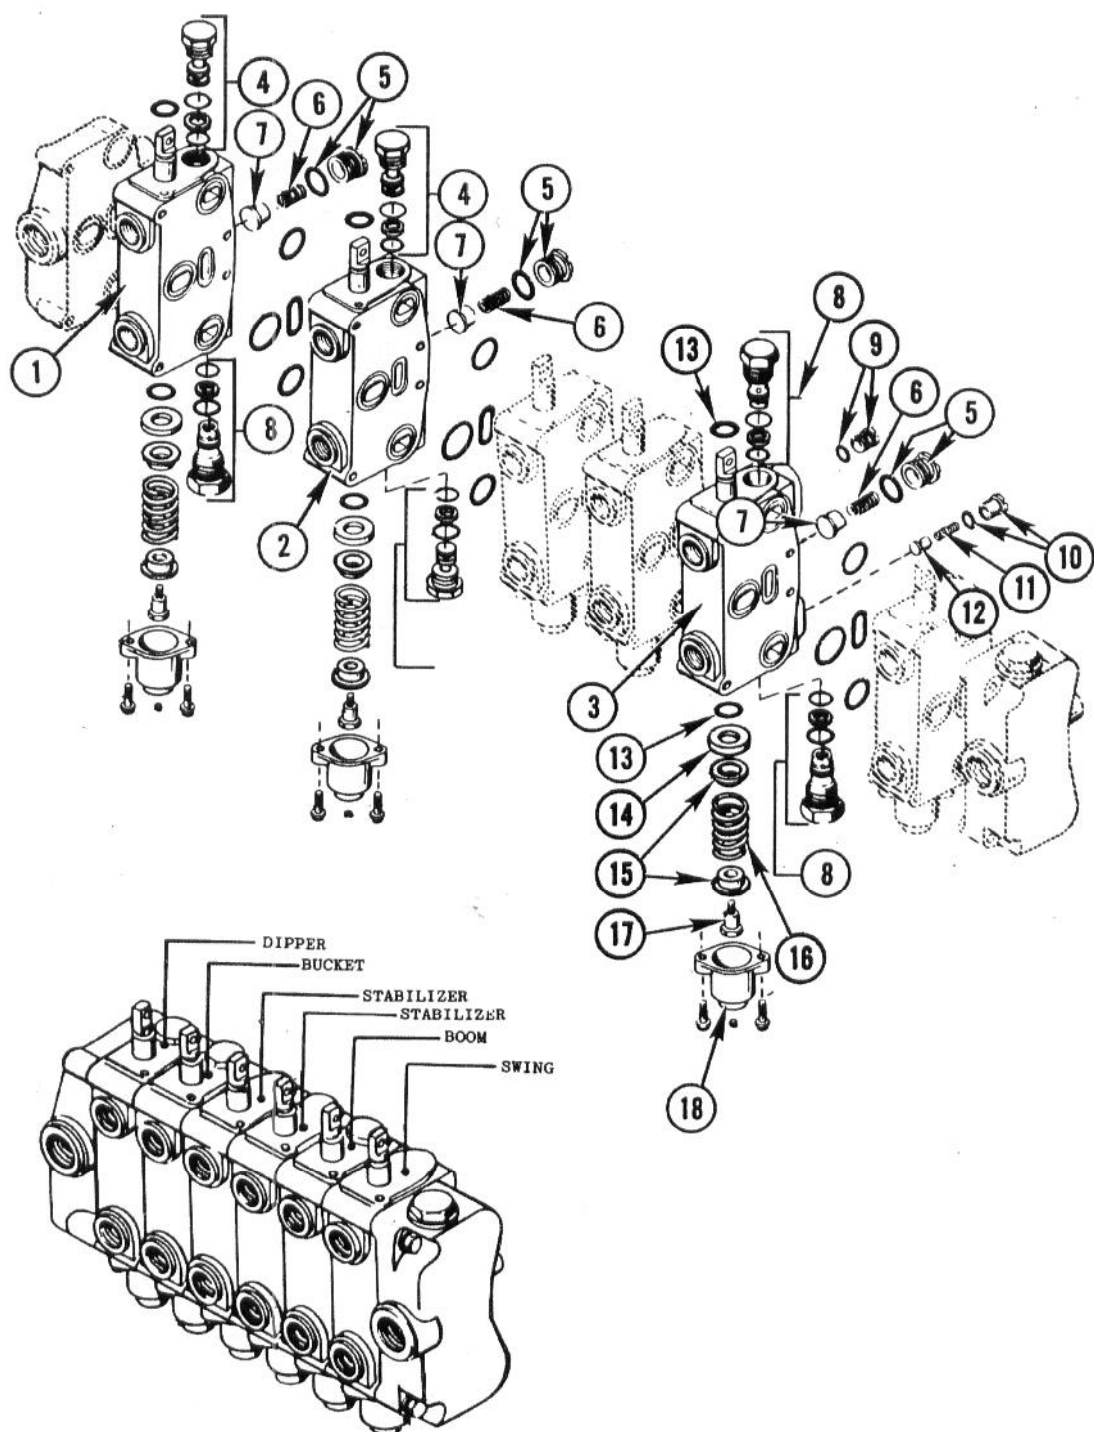

Fig. 15 — Dipperstick, Bucket and Boom Sections of Control Valve
e. Anti-cavitation plungers — Replace or clean. This plunger assembly is normally installed in the boom "working section" (towards the center spring end), see Fig. 15.